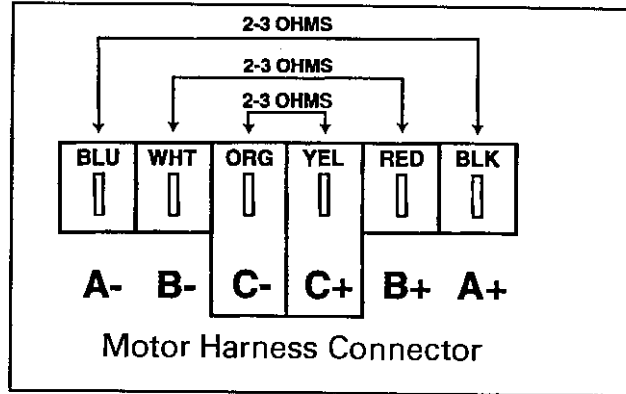

Figure 2-5
2. Remove each pair of phase wires from the motor control and perform an ohms check of each wire leading to the motor. Each wire pair should show 2-3 ohms resistance. *(Figure 2-5)*